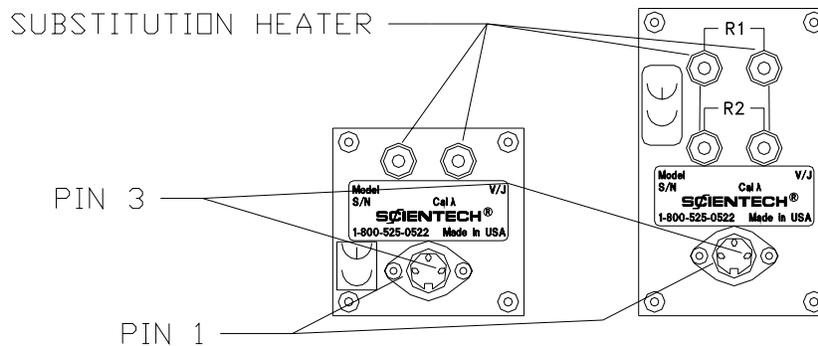

Figure 1 – 100mm and 200mm connectors
Refer to Figure 1. The output of the calorimeter is connected directly to the DVM or chart recorder. Large aperture calorimeters do not require any power. The voltage output is on pin 1 of the DIN connector and should be connected to the positive side of the DVM or chart recorder. Ground is on pin 3 and should be connected to the negative side. Pin 2 is not used.
- Refer to Figure 1. Connect the output of the calorimeter to the DVM.
- A. Refer to Figure 1. Connect a DVM to the white jacks of the calorimeter.